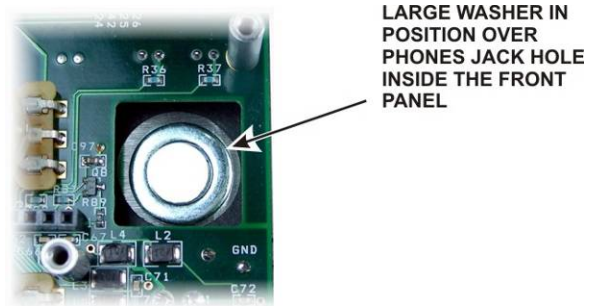

Figure 12. Phones Jack Washer.
□ A large, thick spacer washer should be lying on the front panel near the hole for the phones jack (see Figure 12). This spacer fits between the phones jack and the back of the front panel board to provide a solid mechanical ground connection when the boards are in place. Remove the washer and set it aside. If it is lying on the inside of the front panel you can tip the panel so it will slide out at the end.